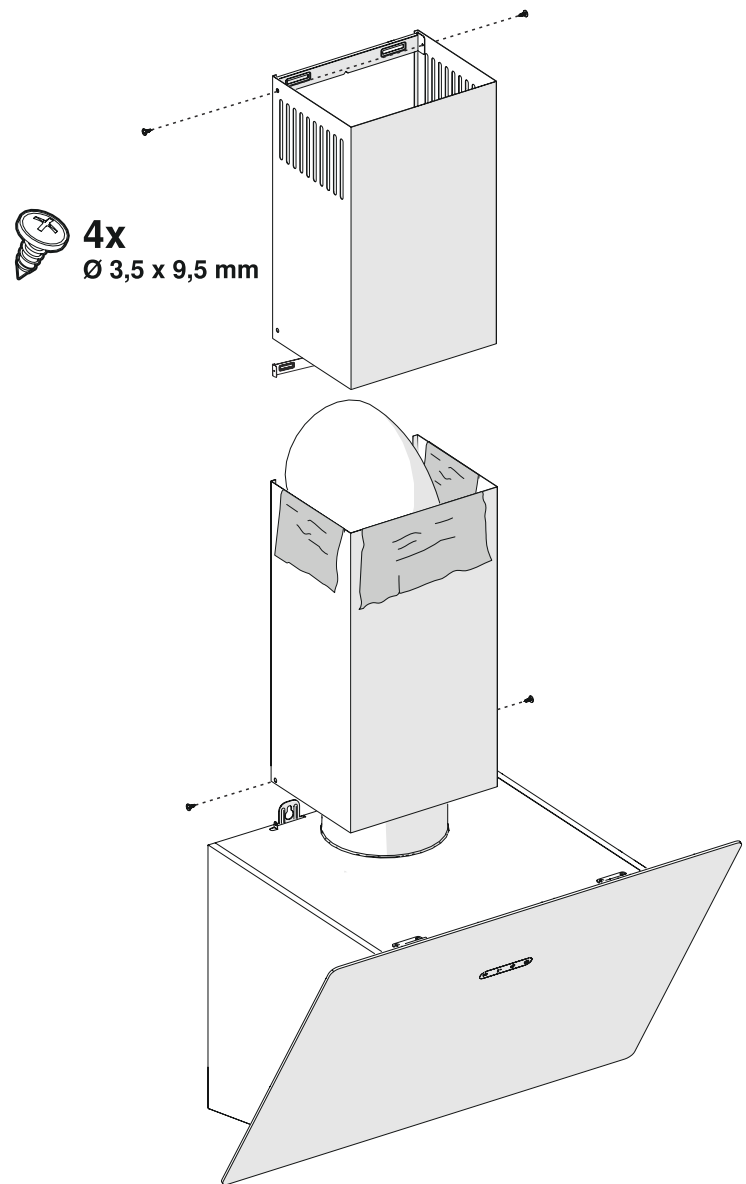

Fig. 13
- If there are protective sheets on the flues, remove them (Fig. 13).
- By pulling the upper flue upwards and screw to the flue connection plate through the left and the right sides.(Fig. 13).
- Mount the lower flue to the body through the left and the right sides.(Fig. 13).